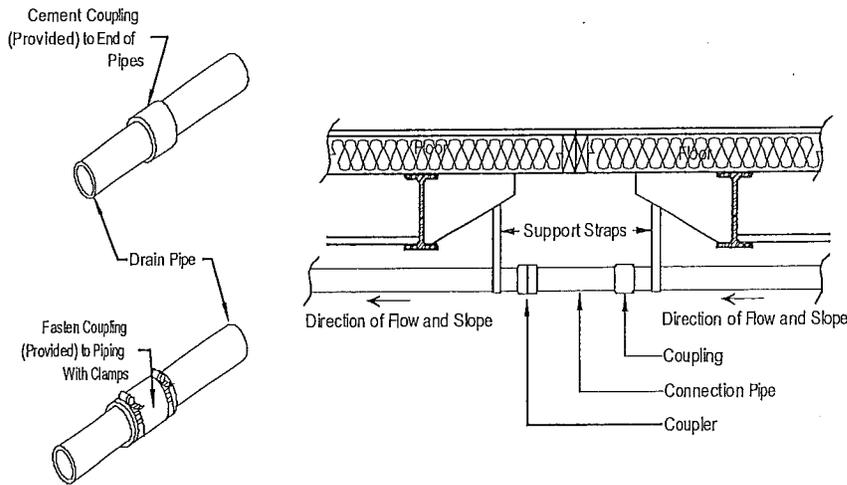
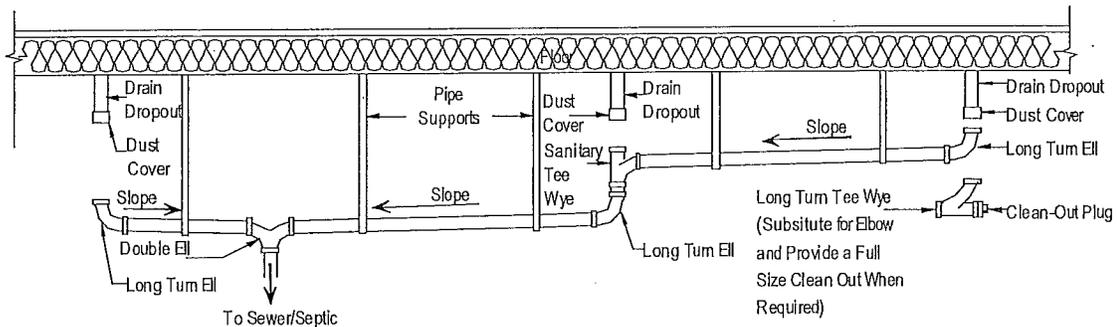
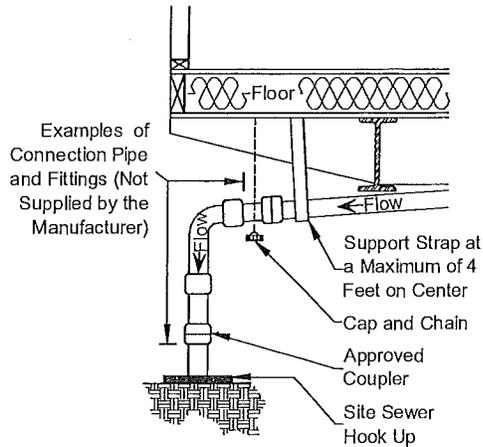
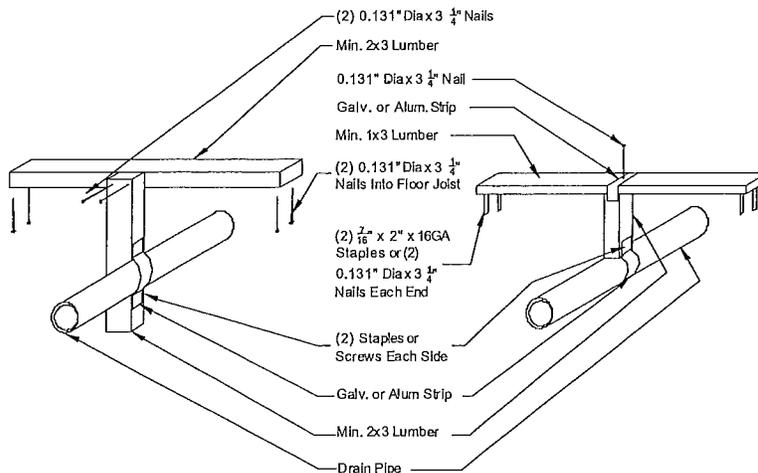

Figure 58. Drain crossover connection
Figure 59. DWV system
Figure 60. DWV connection to sewer/septic
Figure 61. DWV pipe support options
2. **Assemble pipes.** Using the drain schematic drawing provided with the home, begin assembling the DWV system starting at the location farthest from the sewer/septic connection and working towards the outlet, fastening the pipe with cement or adjustable screw-clamp connectors, if provided (Figure 58). As the system is assembled, support the piping with temporary blocking. Unless otherwise noted on the schematic diagram, provide a minimum 1/4 inch per foot slope towards the sewer/septic using a plumber's level. Where a slope of 1/4 inch per foot cannot be maintained, use a minimum slope of 1/8 inch per foot and install of a full-size clean-out at the uppermost point of the run (Figure 59).
4. **Connect to outlet.** Connect the main drain line to the site sewer/septic hook-up, using an approved elastomeric coupling (Figure 60).
5. **Install supports.** Install permanent drain line supports at a distance of four feet o.c. or less (see Figure 58, Figure 60 and Figure 61).